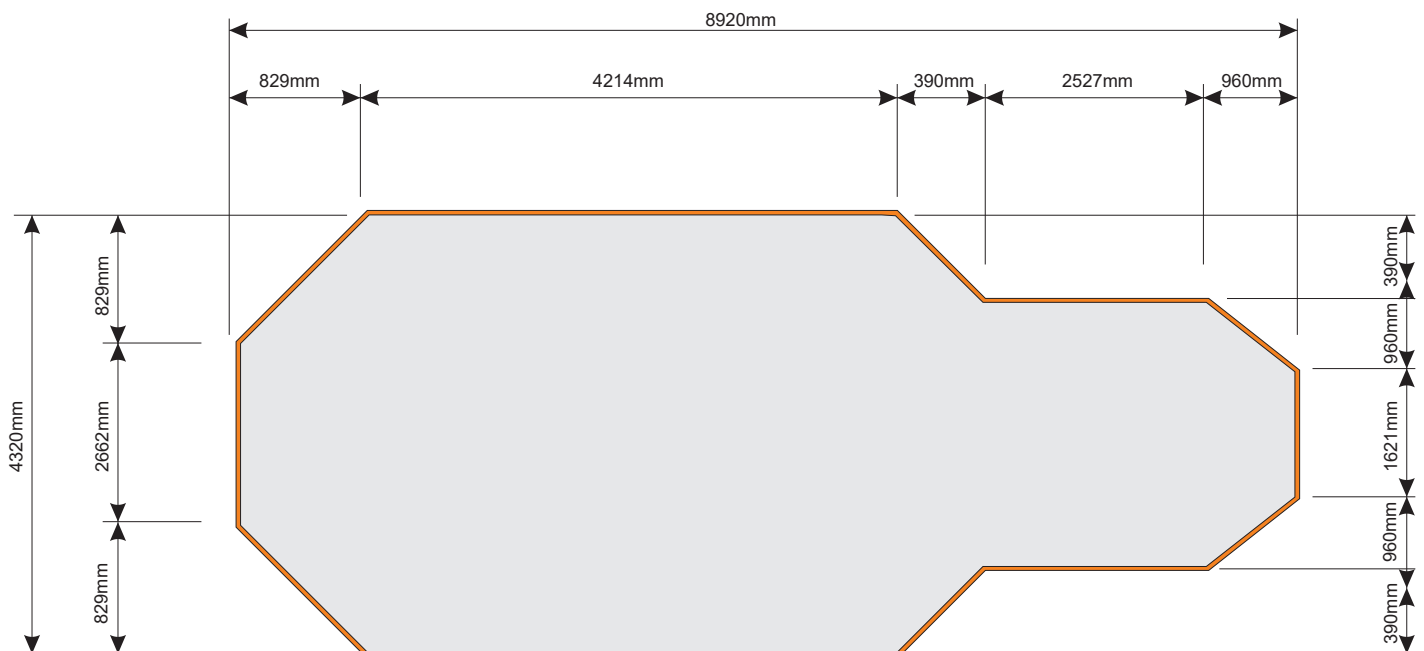

Fig 1
1. Excavate area for the surfacing as shown in either Fig 1(not required for grass mat)